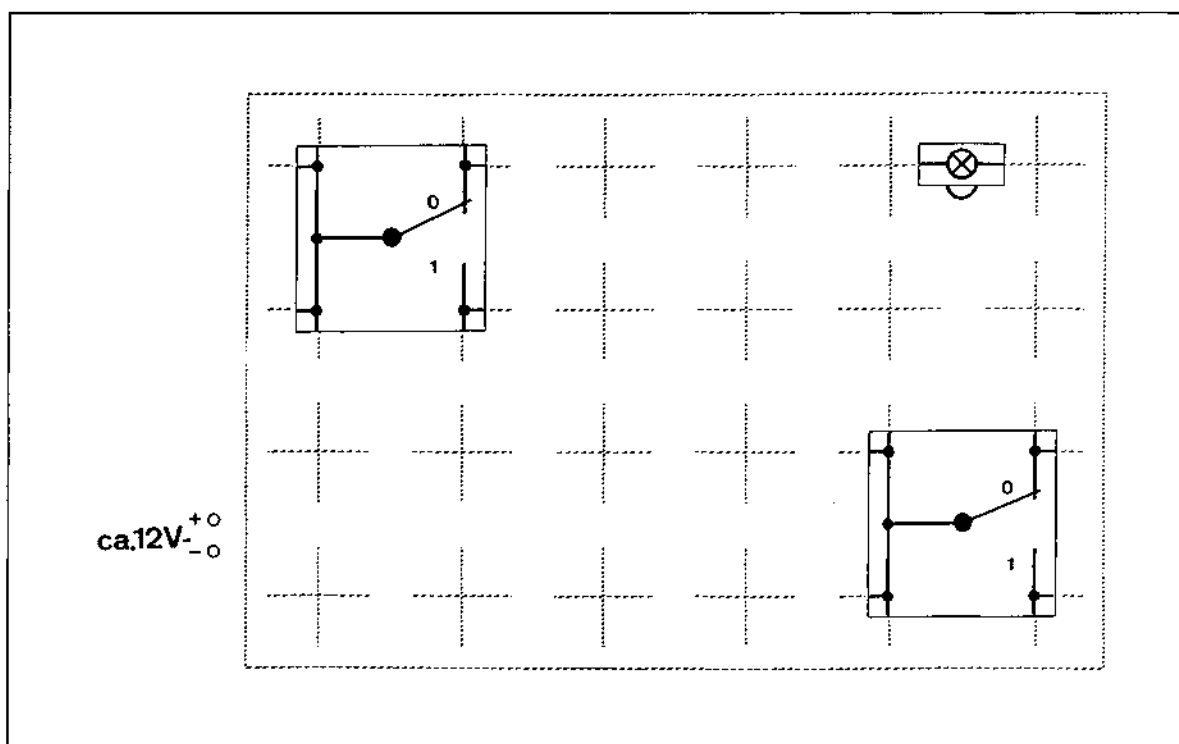

Fig. 3 Arrangement of lamp and changeover switches in a two-way circuit ► 6.
6. Arrange the changeover switches and lamp as shown in fig. 3.